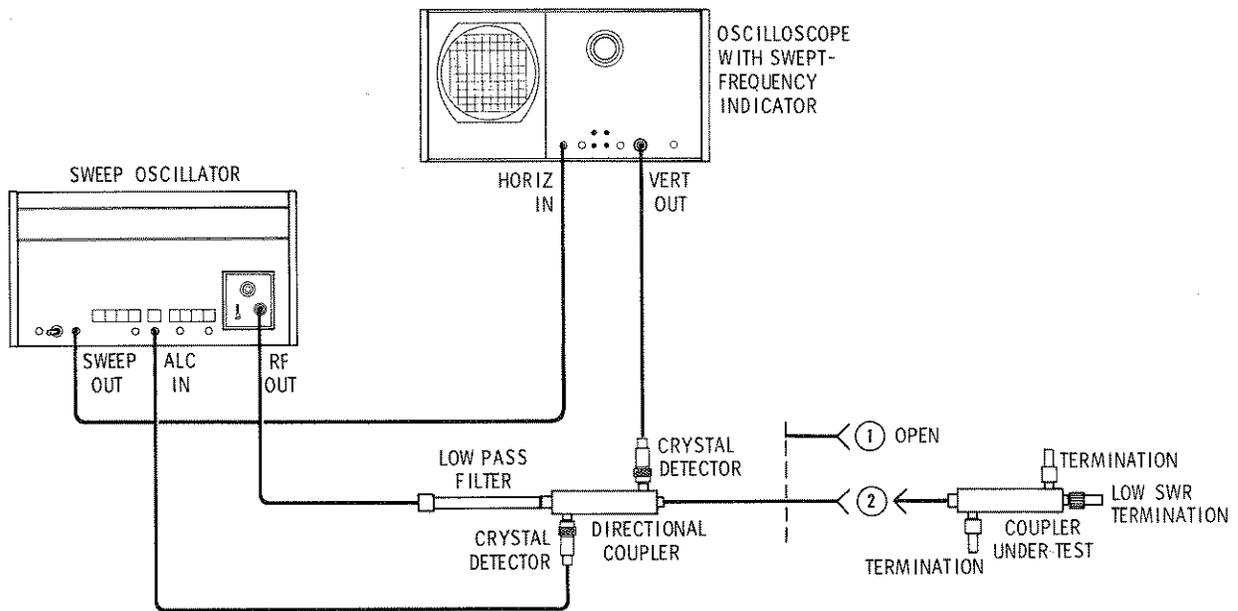

Figure 8. Swept-Frequency Primary-Line SWR Test Setup
To test a 774D use another good 774D as the directional coupler in Figure 8. To test a 775D use a good 775D.
- a. Connect the equipment as at (1) in Figure 8.
- 1. Connect the dual-directional coupler under test as shown at (2) in Figure 8.